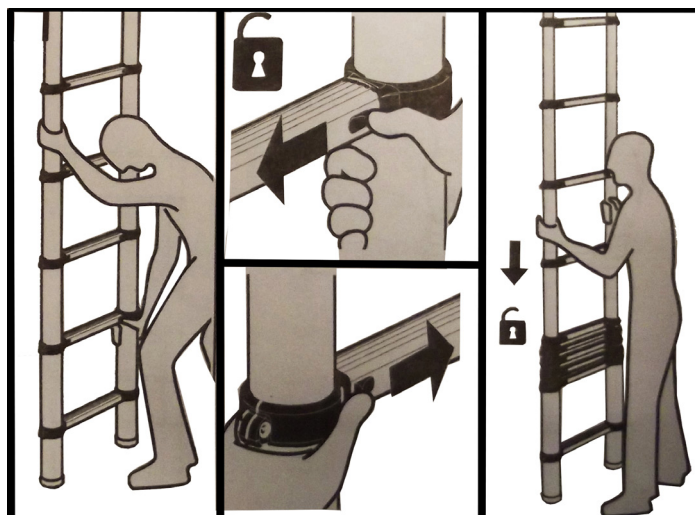

fig.8
- 4.6.3. Start by releasing the sliding safety locks at the bottom (fig.8). Release one lock at a time whilst holding the ladder with the other hand.